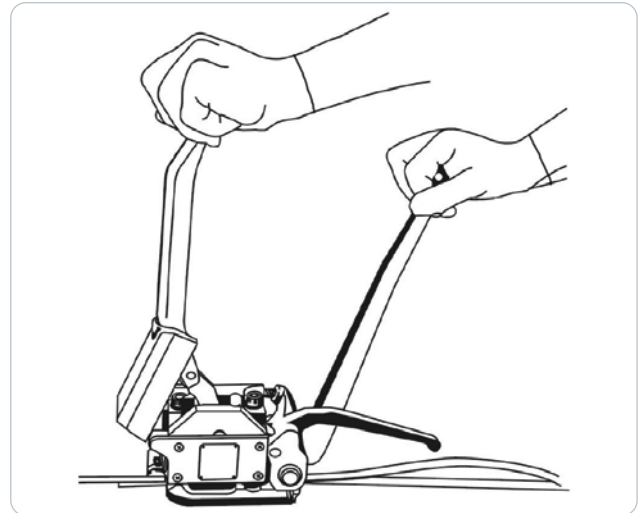

Figure 4
6. Punch the tape using the punch lever by moving it forward as far as it will go. The right hand holds the device firmly and provides the necessary counterforce (Figure 4).